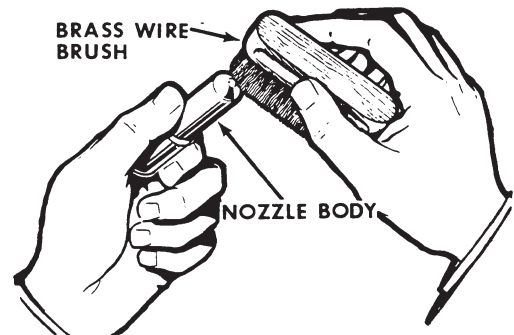

Figure I-20
2. Remove all carbon with a brass wire brush as shown in Figure I-20. Place body in solvent or fuel oil to loosen carbon if necessary.